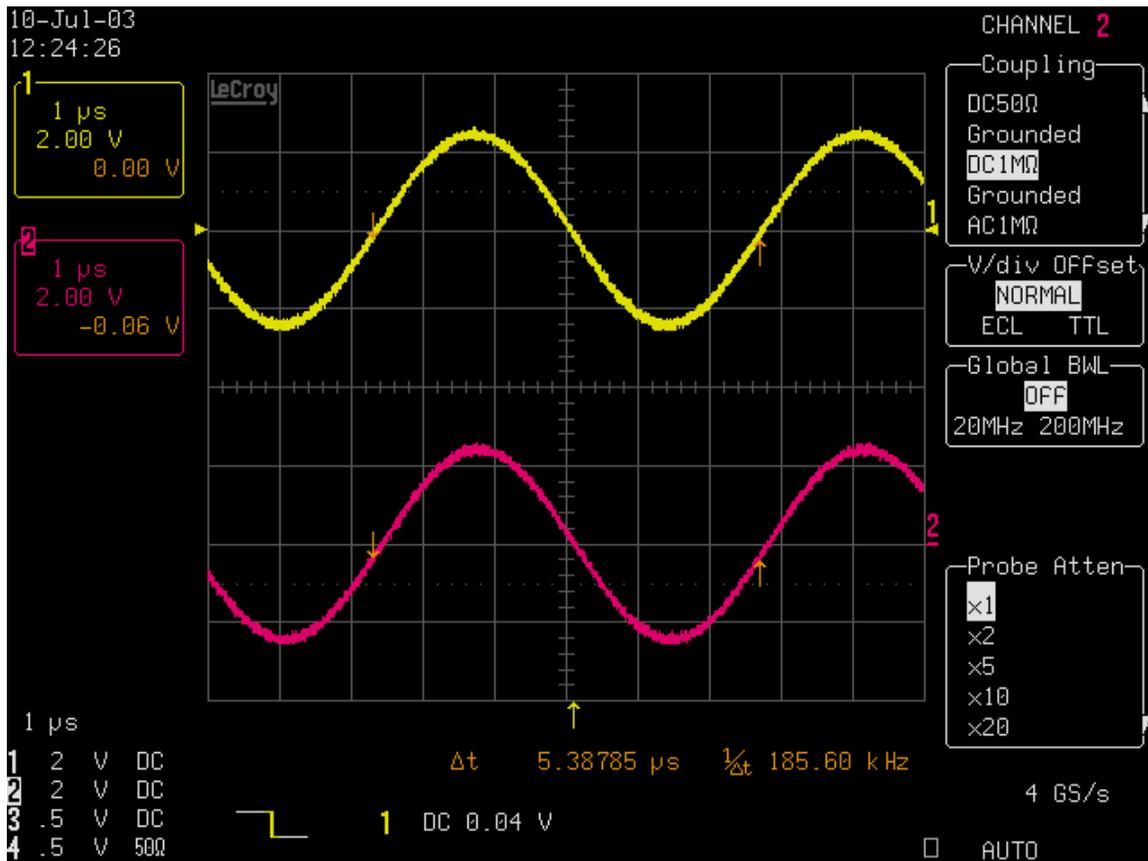

Figure 17. DAC 1 (top trace) and DAC 2 (bottom trace) Outputs when Continuous AC Testing is Selected with the RTB1616 Installed.
The functionality of DAC 1 (AWG) and DAC 2 (Y) can also be checked with the RTB1616. Simply click the Continuous button in the AC TEST panel. While the AC test is running, monitor the DAC 1 and DAC 2 outputs with an oscilloscope. Each should show a sine wave of with an amplitude of  $\pm 2.5$  V and a frequency of approximately 185.6 kHz (see Figure 17).